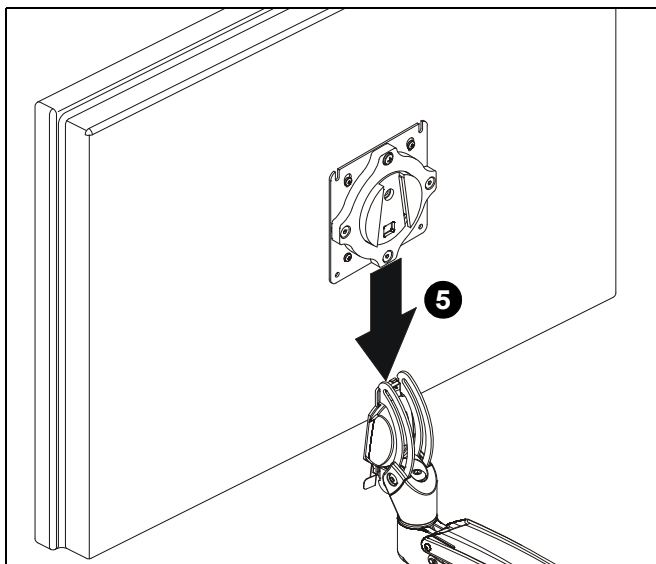

Figure 10
4. Position display with faceplate attached above mount. (See Figure 10)
5. Slide faceplate onto mounting head until quick release tab clicks into place. (See Figure 10)